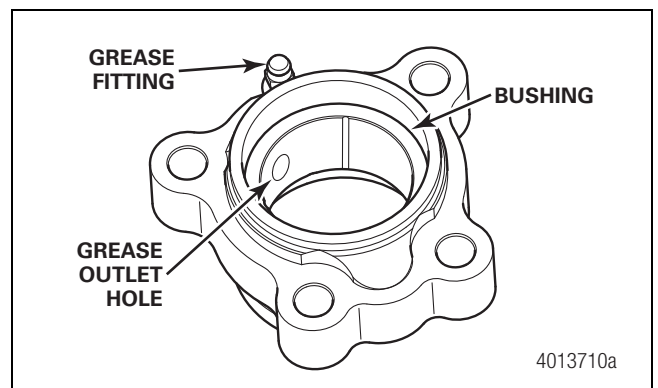

Figure 11.46
10. Check to ensure the grease outlet holes do not line up with the zerk fitting. Adjust if necessary. Figure 11.46.